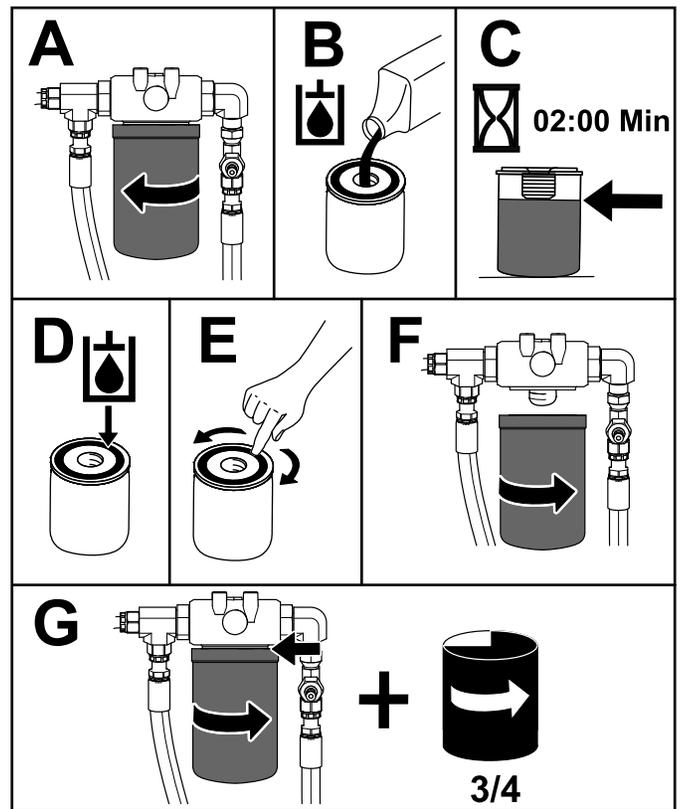

Figure 83
9. Place a drain pan under the rear filter and replace the filter (Figure 83).